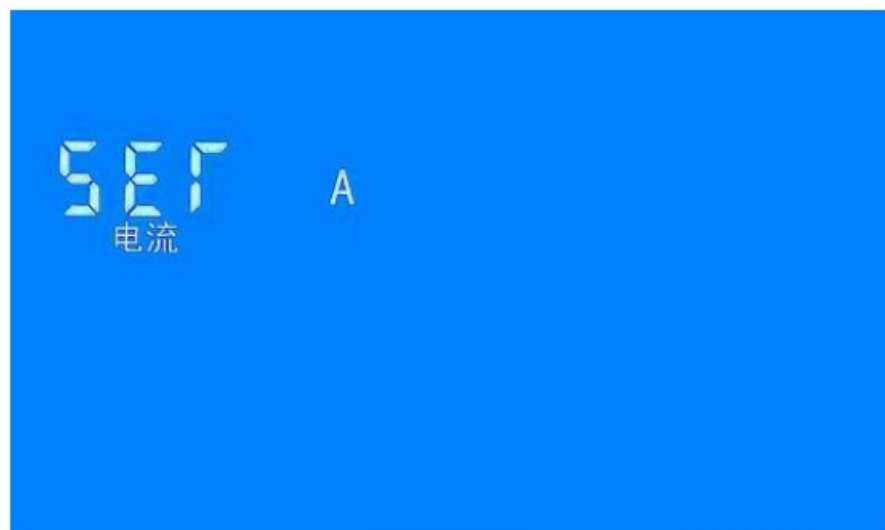

Figure 7 Current range setting interface
Step 1: In the normal display interface, long press the button until the LCD shows the interface of Figure 2, then release the button, short press the button again switches to the interface to Figure 7, it indicates that this state is the current range setting state.